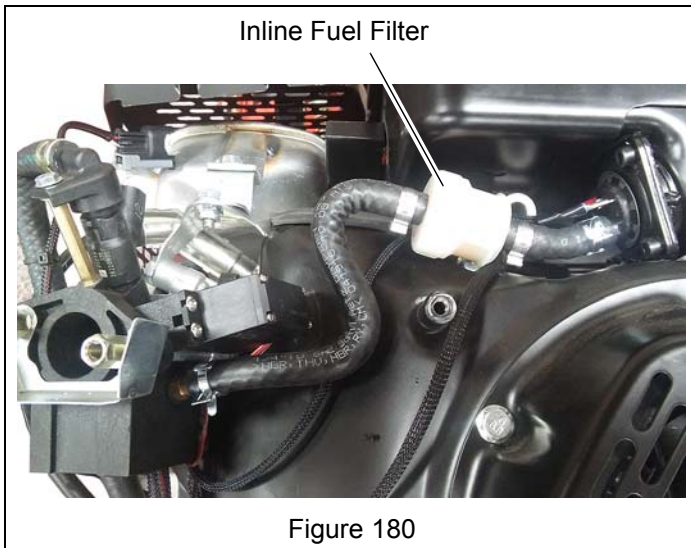

Figure 180
3. Check inline fuel filter for debris and blockage. See Figure 180.